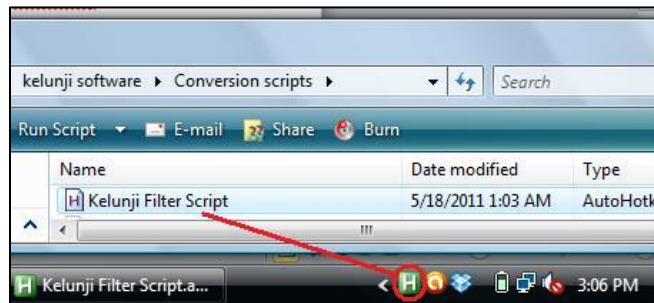

Figure 29: Kelunji Script Execution and System Tray Icon
5. Wait until the script finishes (the process may take up to an hour). When it finishes, a notification will appear on the screen. While the script is running, the AutoHotKey icon will display in the bottom right corner of the screen, as shown in Figure 29